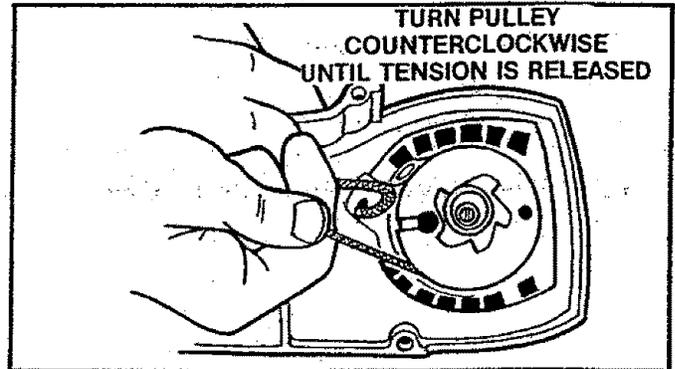

Figure 51
6. If the starter rope is not broken, release the spring tension by pulling about 10 inches of rope from the pulley and catch the rope in the notch as shown. Figure 51.